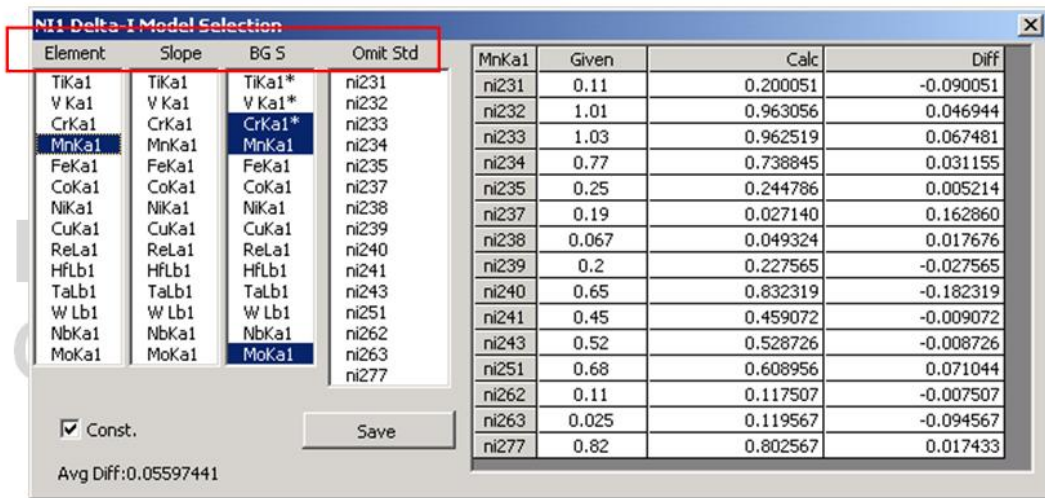

Figure 8
7.13.1. The four columns (parameter options) on the left side of the Delta-Model Selection window (Figure 8) are used to create the regression equation (each element has its own separate coefficients):